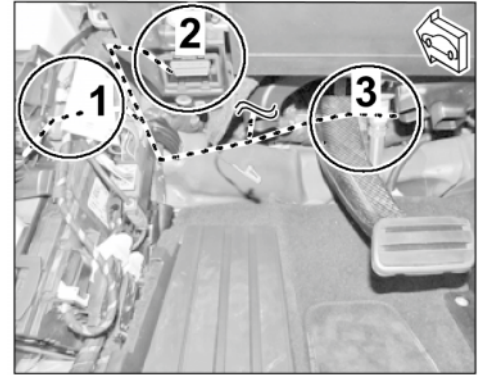

Figure 15
– Line routing on **LHD vehicle** (⇒ *Figure 15*):